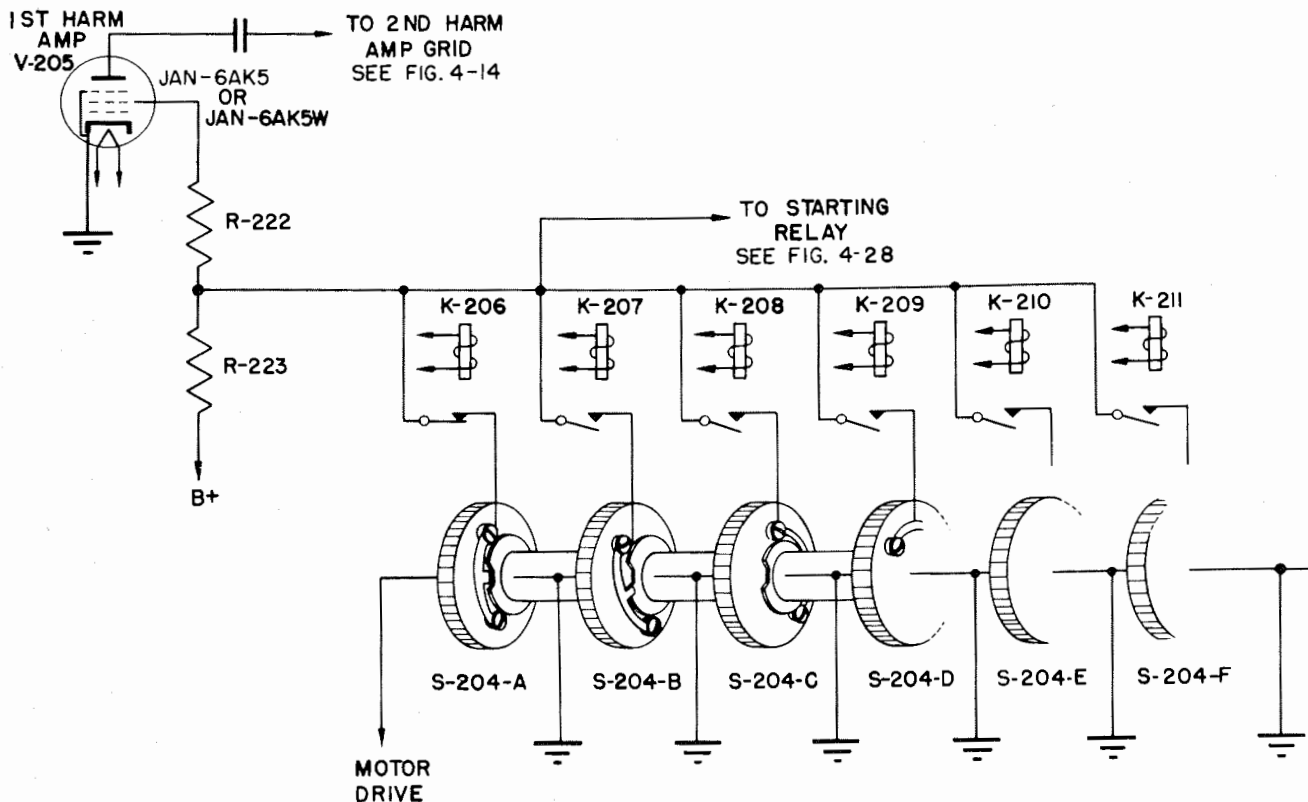

Figure 4-27. Radio Receiver R-77/ARC-3, R-77A/ARC-3, R-77B/ARC-3, R-428/ARC-36, R-428A/ARC-36 or R-428B/ARC-36—Selector Switch Circuit
a. When one of the switches is connected into the circuit through the contacts of its associated crystal relay it maintains a short on the screen of the first harmonic amplifier tube JAN-6AK5 (V-205). (See fig. 4-27.) This prevents any drawing of grid current by the second harmonic amplifier tube, since the RF is blocked by the shorting of the screen. Thus the motor is kept from stopping except during the period when the switch is open.